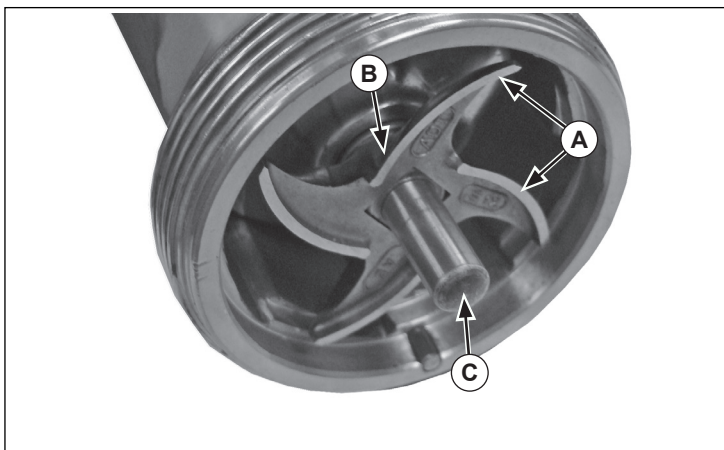

Figure 5. Knife Blade and Blade Shaft
- Slide the knife blade (B) onto the blade shaft (C) so that it seats completely over the square (D). See Figure 5.
- Carefully remove the knife blade (B) from the blade shaft (C). See Figure 5.